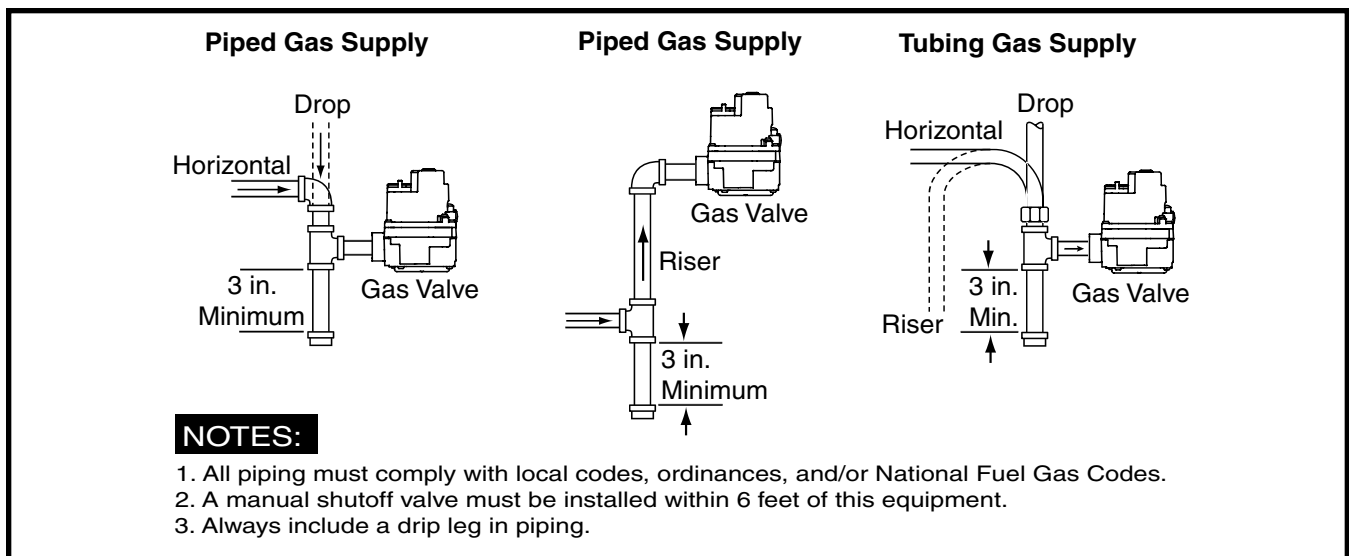

Figure 9. Typical Gas Service Connection
- Some local codes require the installation of a manual main shut-off valve and ground joint union external to the furnace. The shut-off valve should be readily accessible for service and/or emergency use. See Figure 9 \(page 12\). Consult the local utility or gas supplier for additional requirements regarding placement of the manual main gas shut-off.
- A drip leg should be installed in the vertical pipe run to the unit. See Figure 9.
This unit only has right side gas entry. When connecting the gas, provide clearance between the gas supply line and the entry hole in the unit's casing to avoid unwanted noise and/or damage to the unit. A typical gas service hookup is shown in Figure 9.